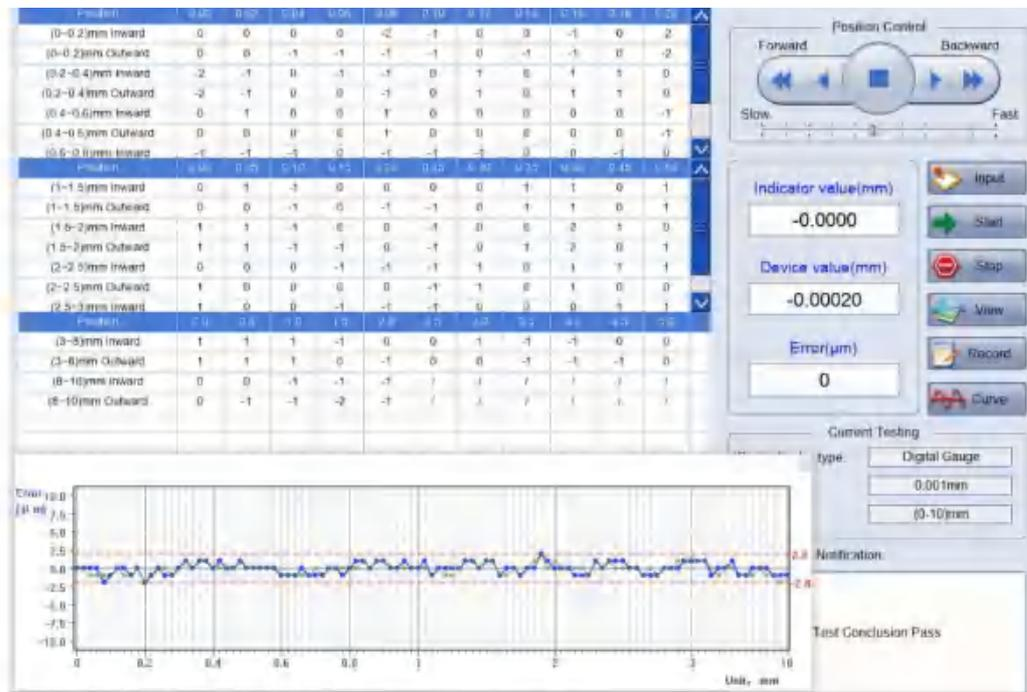

Figure 5-29 Measurement finished
- Click the “Start” button to start the fully automatic measurement. You can click the “Show curves” button to display the error curves in real time. See figure 5-29.